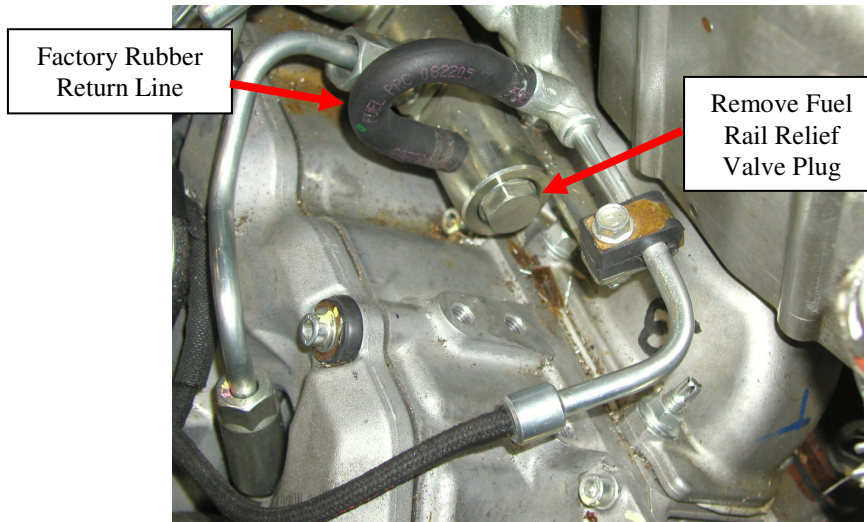

Figure 6: Fuel Rail Relief Plug
15. Remove the factory rubber return line shown above in Figures 6 and 7. Retain the factory hose clamps. Push on the supplied 5/16" fuel line and secure with one factory spring clamp (or the supplied clamp). The rail port can be left open. The fitting installed in step 11 seals off this port from the inside of the rail.